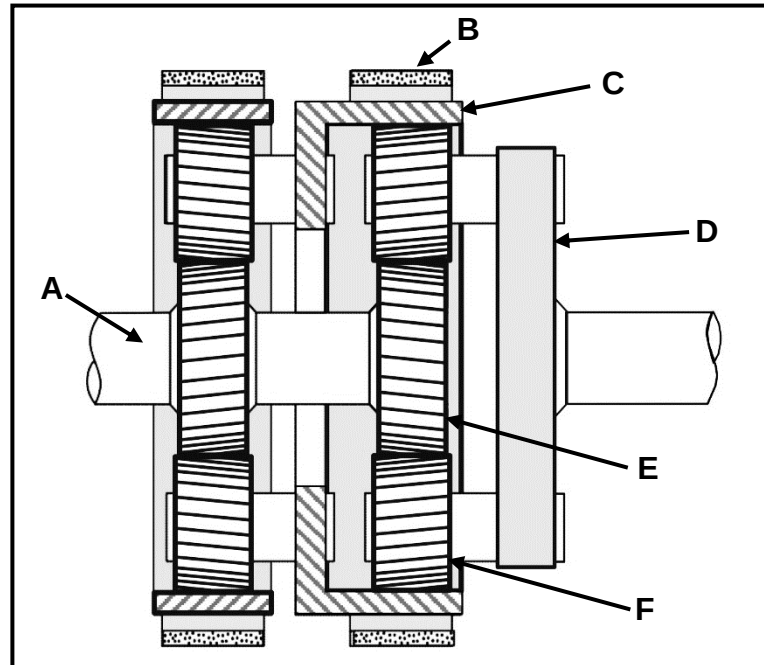

FIGURE 9.1
- 9.1 Study the cross-sectional view of a double epicyclic gear system in FIGURE 9.1 below. Answer the questions that follow.
9.1.2 Describe, in detail, the operation of the gear system in FIGURE 9.1 when low gear ratio/gear reduction is obtained.
HINT: Use FIGURE 9.1 to assist you in your answer. (4)